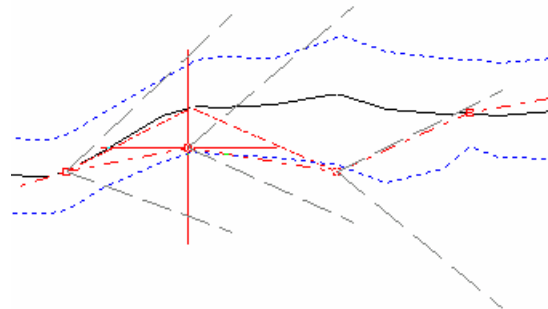

Figure 4.20: Point Captured in the Profile Window Showing Grade Guides
7. Move your mouse cursor to the Profile window and capture the VIP just before the one you edited and notice the gray dashed lines that appear as you move the mouse as shown in Figure 4.20. These are *Grade Guides* (enabled and configured in the Profile window options). Also notice that the *Grade Nxt.* and *Grade Lst* items under the Section graphic are updating with your mouse moves.